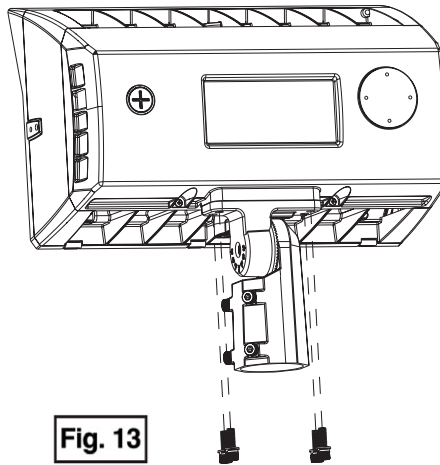

Fig. 13
- 1.) Remove the four (4) bolts connecting the slipfitter knuckle to the fixture. (Fig. 13)